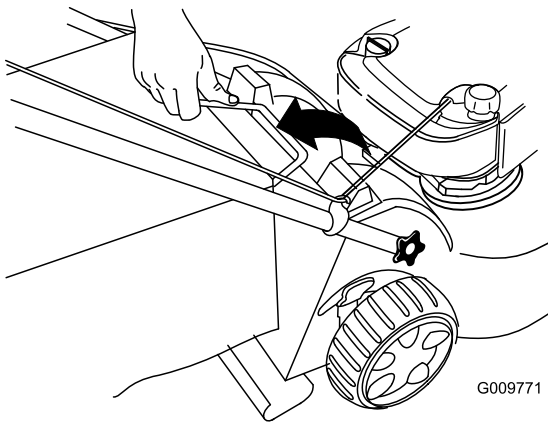

Figure 30
2. Lift the grass-bag handle out from the grooves at the top of the machine and remove the bag from the machine (Figure 30).